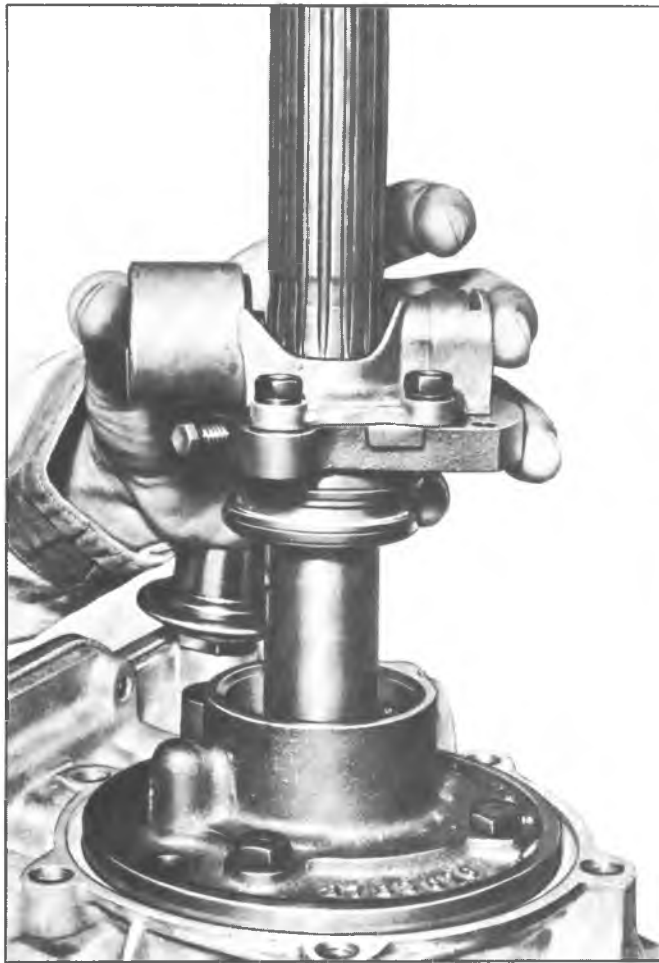

Fig. 5PG-Removing Governor Assembly
7. Loosen the governor drive screw and remove the governor assembly over the end of the output shaft (fig. 5PG).